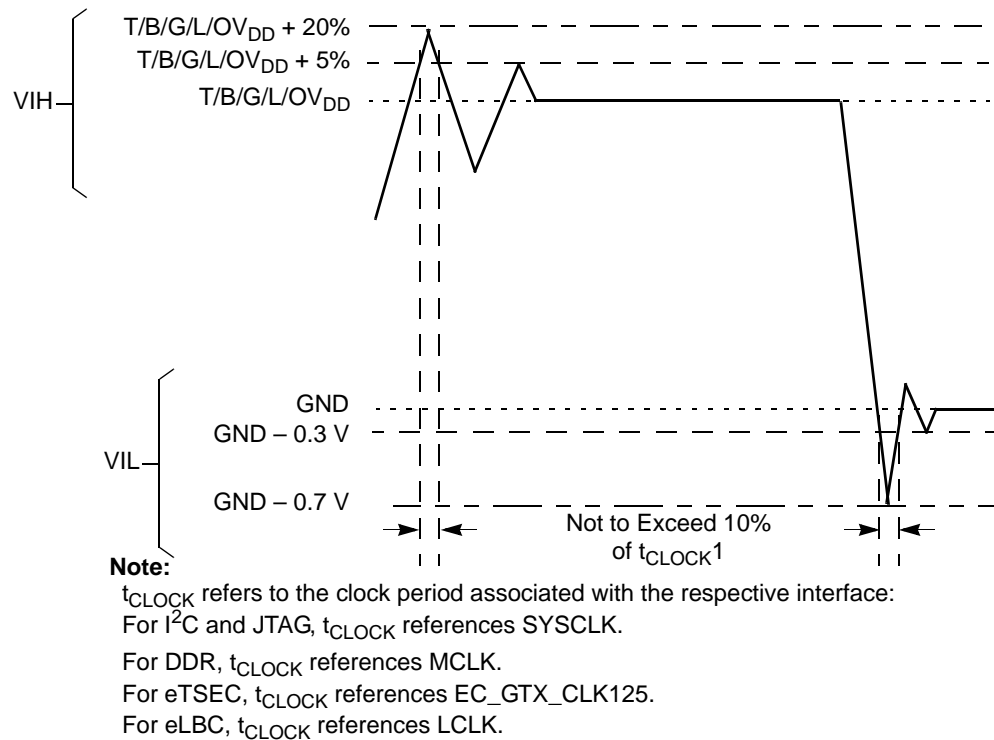

Figure 2. Overshoot/Undershoot Voltage for $TV_{DD}/BV_{DD}/GV_{DD}/LV_{DD}/OV_{DD}$
- (M,L,O) V_{IN} may overshoot/undershoot to a voltage and for a maximum duration as shown in Figure 2.
Figure 2 shows the overshoot and undershoot voltages at the interfaces of the MPC8572E.